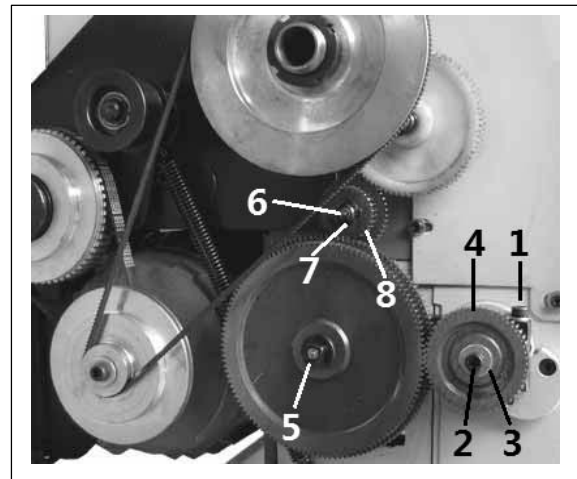

Figure 20
### Example of Gear Set-up to Cut 10 T.P.I. (Figure 20)
1. Loosen bolt (1, Figure 20).
2. Loosen bolt (2). Remove washers (3) and gear (4).
3. Loosen bolt (5) to allow movement in the center gear position.
4. Loosen nuts (6). Remove washer (7) and gear (8).